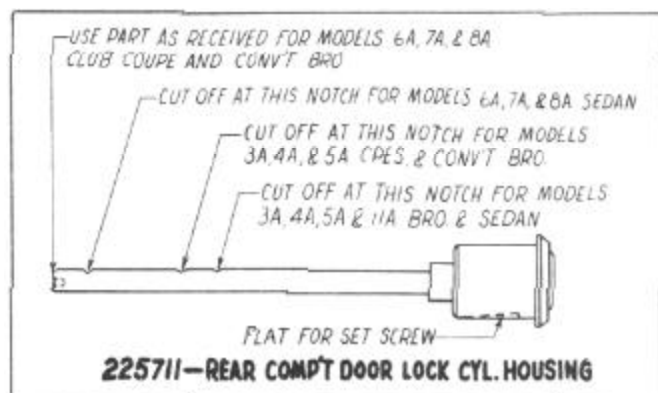

FIGURE 112
**NOTE: Figure 112, shows the service lock cylinder which is interchangeable on all "A" Series Models. These service**